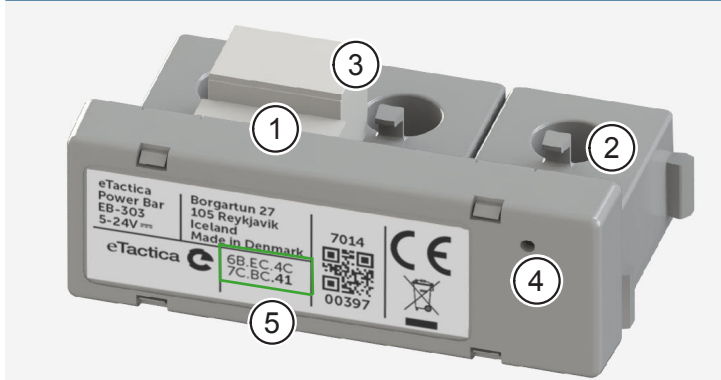

Fig. 1: Power Bar and sensors (example: EB-303).
Modbus address range	01 to F7 hex (1 to 247 decimal), the default one is the last byte of the serial number, see pos. 5 in Fig. 1.
A LED light (pos.5 in Fig. 1) indicates the status according to the following: